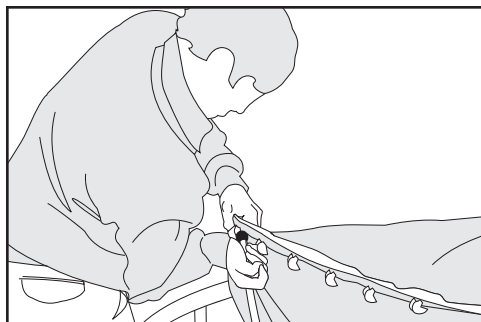

Figure 3: Preferred rod bending technique
1. To release each rod, push the clip lever towards the mat centre, and hold. Then push the ball end of the rod towards the mat centre to disengage it from the socket (Figure 3).
**Tip:** One method to release a rod is to grip a pair of rods with the right hand while releasing the clip of the upper rod with the left hand. Now by tightening the grip on the two rods the upper rod ball slips out of the socket, while the rod is still held firmly in the hand. From there, the rod can be freed in a safe and controlled manner (Figure 3).